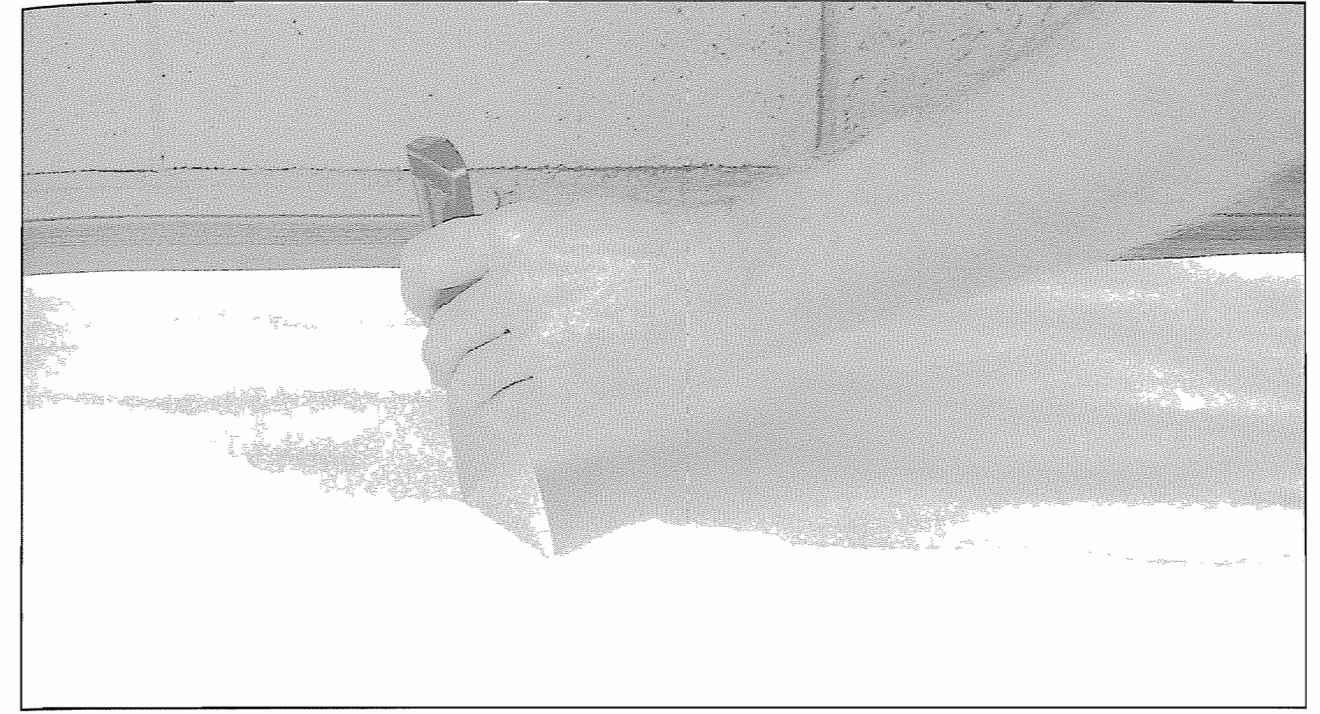

Figure 8-21. Bits of dried glue and other debris are scraped away with a putty knife.
2. When *both* sides are dry, inspect each side carefully. As the glue dries, leaves, insects, and dirt can become trapped in the glue. Also, glue that overruns the edges of the paper adheres to the plastic; then dries, flakes off, and transfers to the next sheet of paper. Before you proceed, scrape away any debris with a putty knife (*Figure 8-21*). Then cut the sheet lengthwise into two 12" x 36" strips.